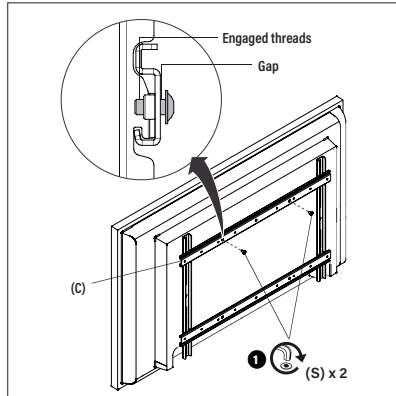

Figure 6
(1) Partially install two 5/16-18 x 5/8" screws (S) into the upper horizontal interface (C). (See Figure 6)